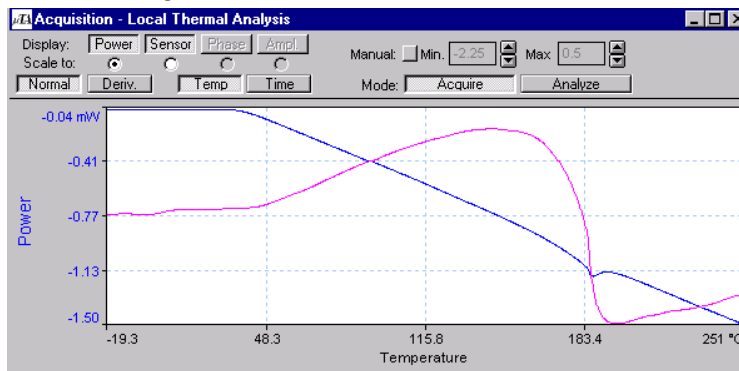

Figure 4.2
- b. Click the Measure button, . The probe now automatically approaches the surface. After about one minute, a thermal curve is displayed, as shown in Figure 4.2.